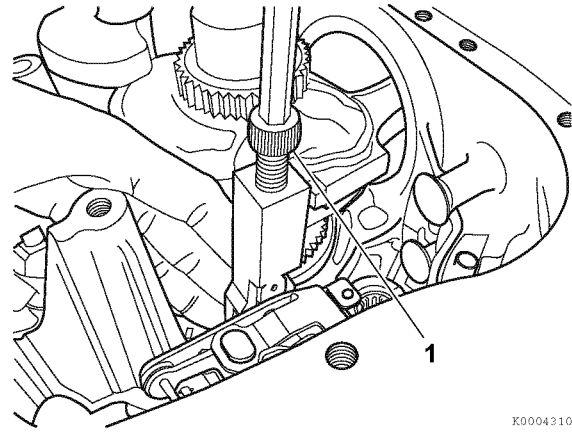

Figure 6-85
5. Tighten the hex cap screw (1, **Figure 6-85**) on top of the tool to push the pin through the governor lever and throttle shaft to remove the pin.